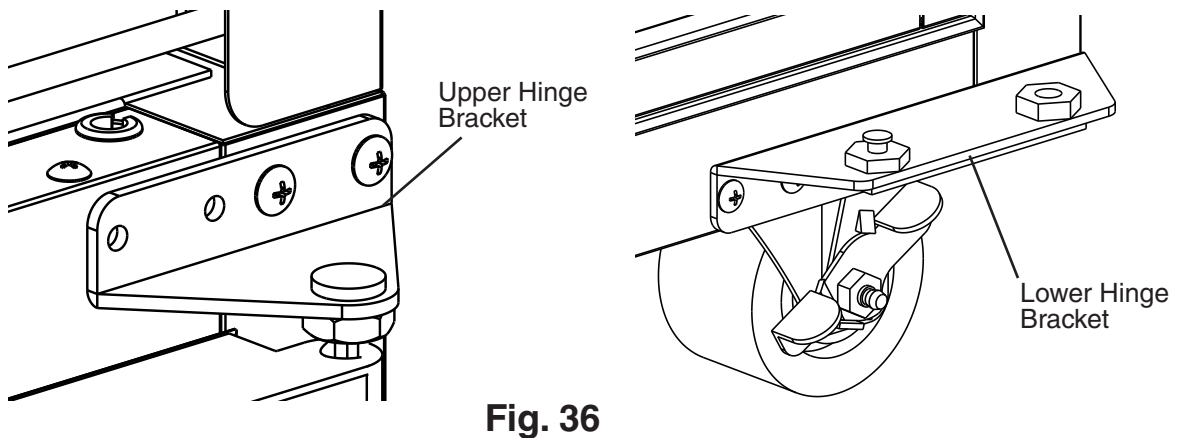

**Fig. 34**
- 5) Grip wrench B in a new position on the tension rod and hold (prepare for tension pressure), then using wrench A, loosen the lock nut again. See Fig. 34.